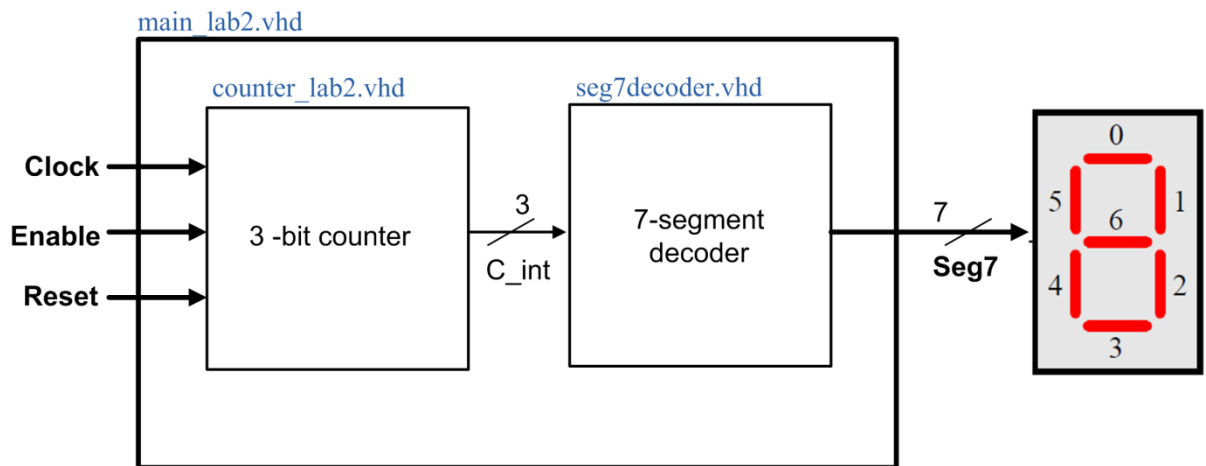

Figure 2 Block diagram
3. Make a new VHDL file with the name **main\_lab2.vhd**. This will be the top file of the design. The functionality of the design is described in Figure 2, and the details of the implementation are as follows:
- a. The entity I/O and architecture are described by Figure 2.